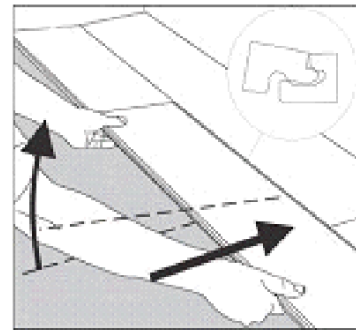

Figure 3
1. Begin the second row with the cut piece from the first row. (figure 3) If the cut piece is shorter than 300mm, do not use it. Instead, begin with a new board that is at least 300mm in length and allows 300mm between the end joints on the adjacent planks.
5. Install the remaining boards and rows in the same manner. (figure 3 and 4)